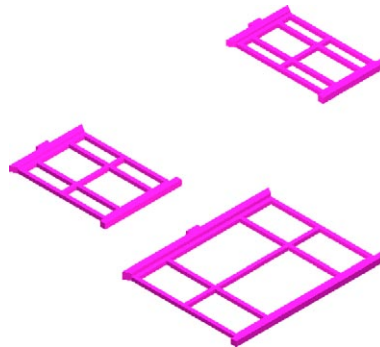

Fig. 16.12 First example – extrusions of the three sizes of windows
6. Make the layer **Windows** current and construct outlines of three of the windows which are of different sizes. Extrude the copings and cills to a height of **1.5** and the other parts to a height of **1**. Form a union of the main outline, the coping and the cill. The window pane extrusions will have to be subtracted from the union. Fig. 16.12 shows the 3D models of the three windows in a **ViewCube/Isometric** view.